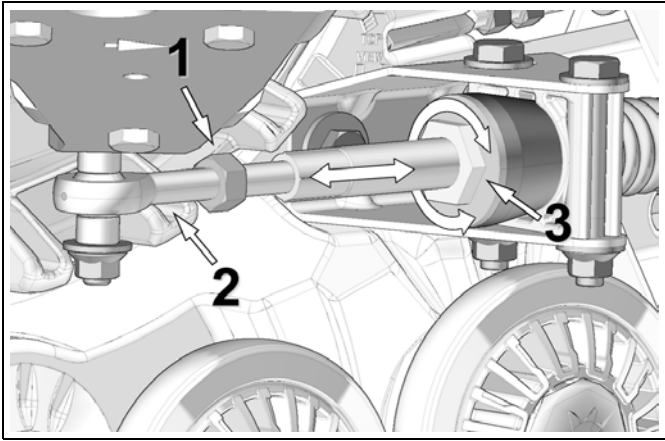

Figure 6
- Loosen jam nut (1). Adjust length of rod end (2) by rotating the stabilizing arm (3) to obtain **270 mm [10 5/8 in]** above the ground. Refer to Figure 6.